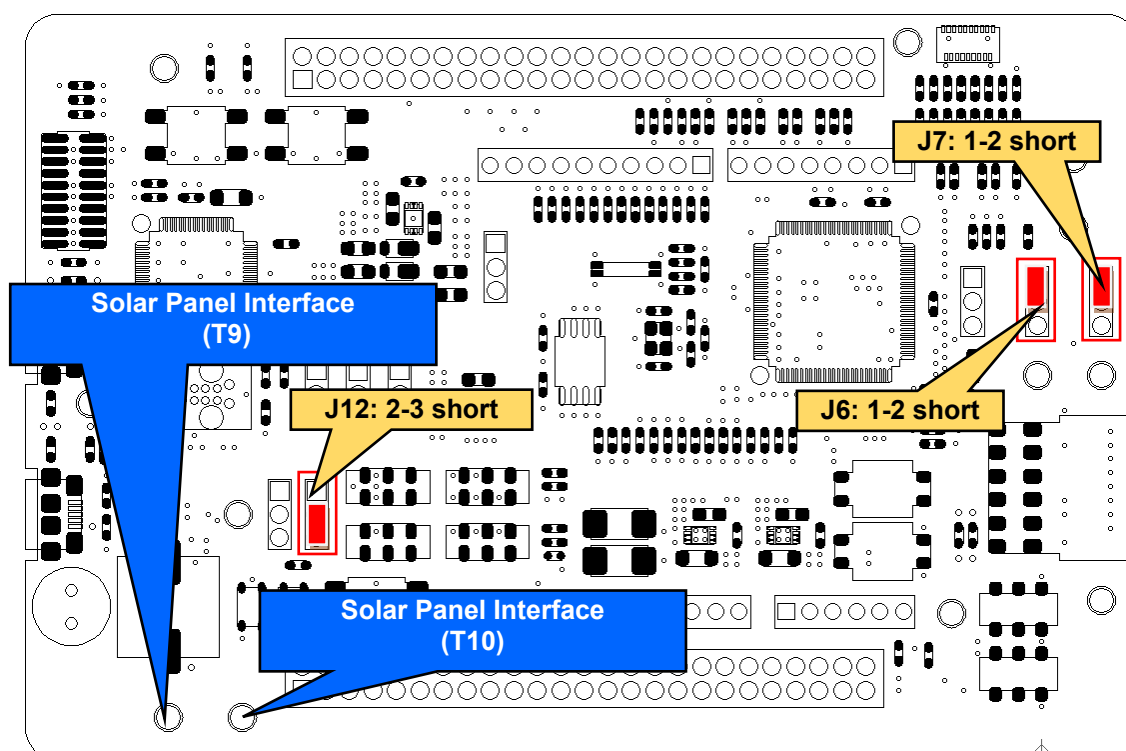

Figure 5-6: Component Layout and Settings (EHC Operation)
2. Follow the setting shown in **Figure 5-6** and **Table 5-8**.